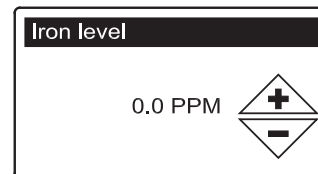

FIG. 31
- 11. IRON LEVEL** Press the UP (▲) or DOWN (▼) buttons to set the value for iron in your water (See Figure 31). The conversion factor is 3 grains per 1 ppm of clear water iron.